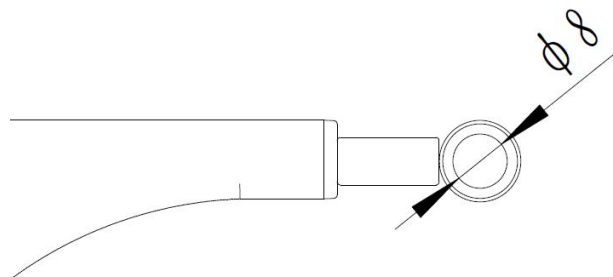

Figure 4.3-3
(3) A collar for securing the wire rope is provided at the front of the sensor as shown in Figure 4.3-3.